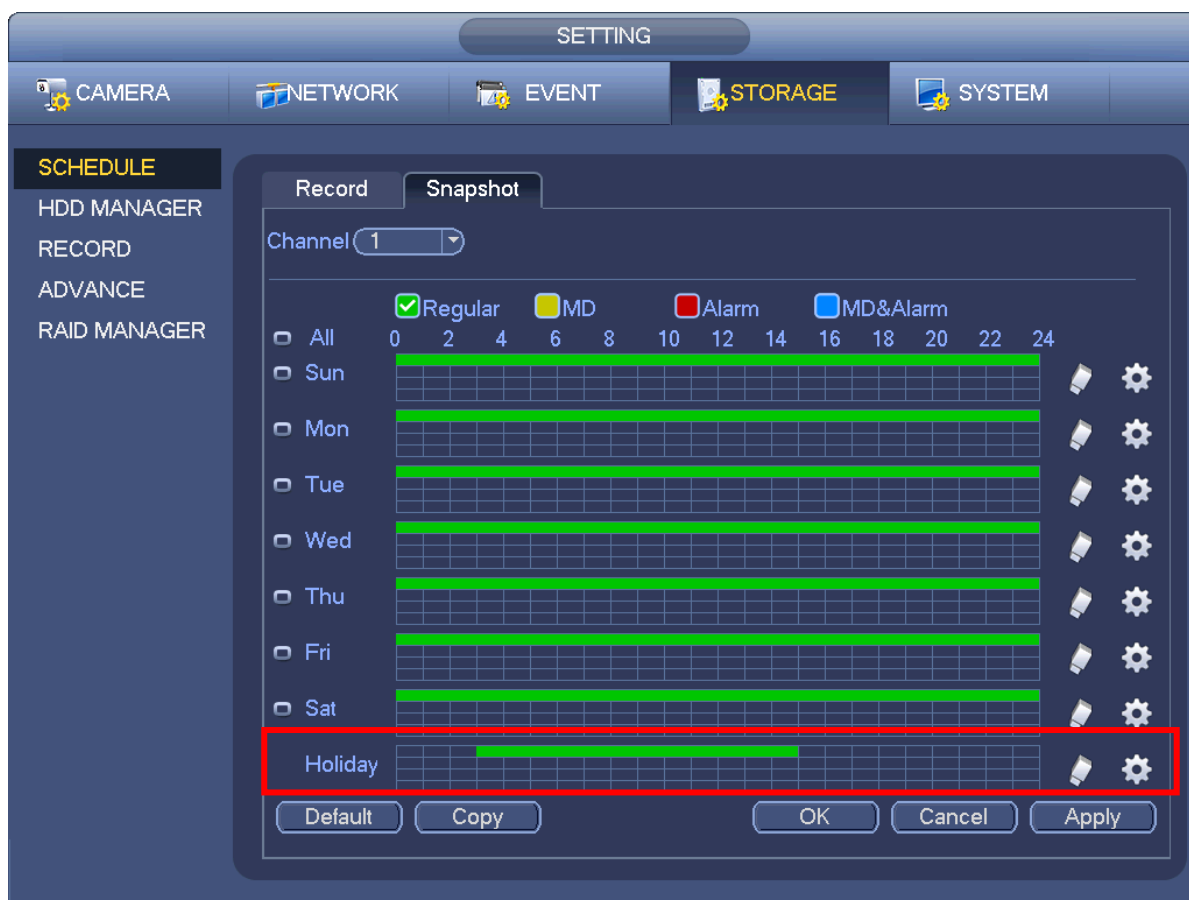

Figure 4-78
- d) From Main menu->setting->Storage->schedule, you can go to schedule interface. See Figure 4-78. Now you can set period and record type of holiday time. Please refer to chapter 4.10.2.1 for detailed setup information.
From Main menu->Setting->Storage->Schedule, you can go to schedule interface. See Figure 4-78. Click Holiday item to set snapshot period.